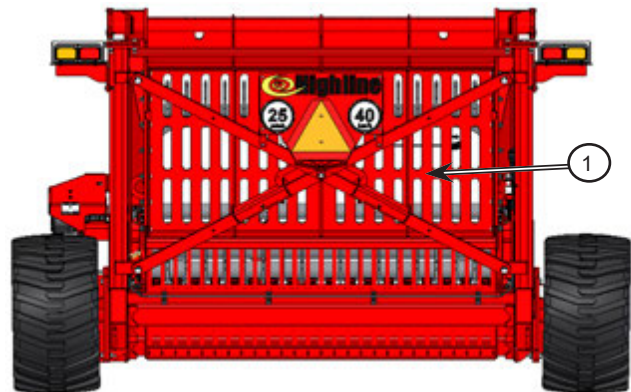

Figure 4.27: Rear bucket dump height panel
1. To change the dump height, the rear bucket dump height panel (1) needs to be adjusted; see Figure 4.27.